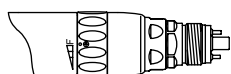

Fig. 3
- (1) Forward Rotation : Turn the FWD/REV change ring to "F" as shown in Fig. 3.